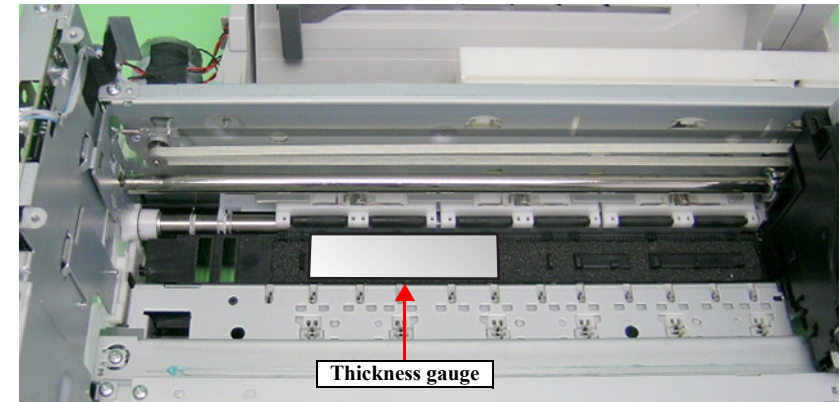

Figure 5-7. Placement position for thickness gauge
16. Set the thickness gauge at position shown by Figure 5-7 again.